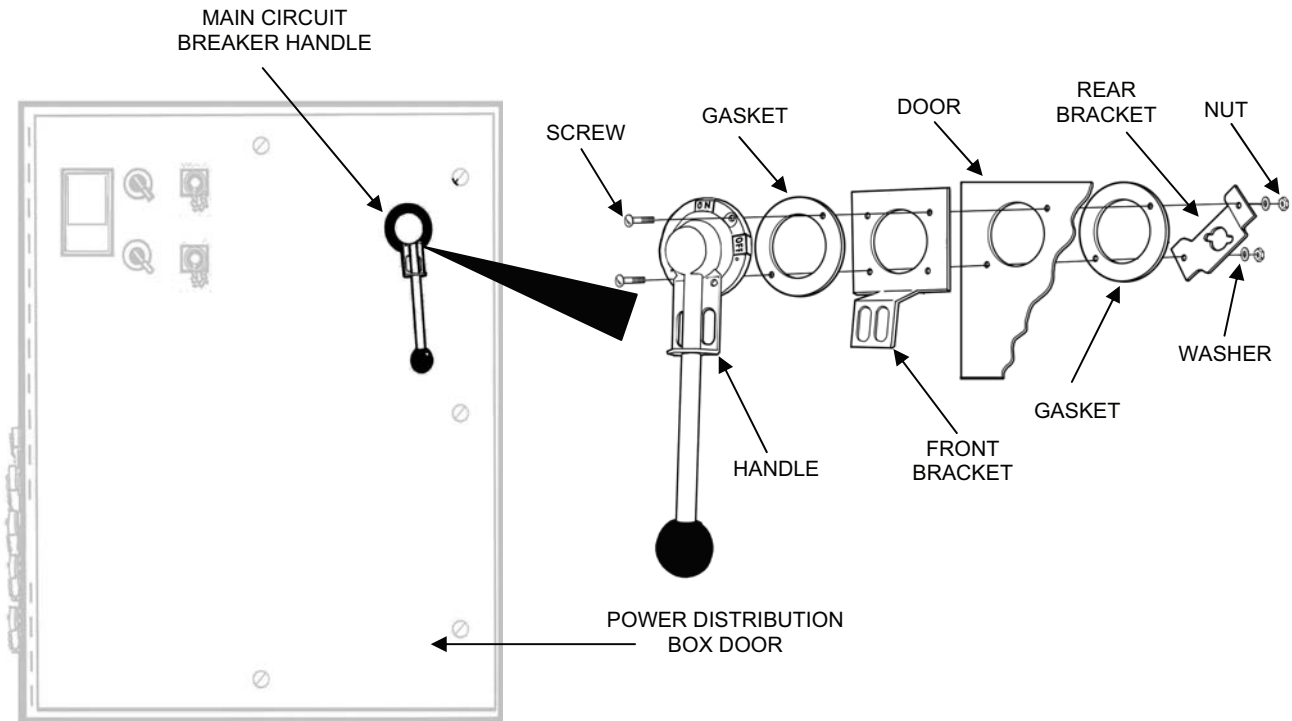

Figure 17. Main Circuit Breaker Handle Replacement.
1. Remove the main circuit breaker handle as follows (see Figure 17):